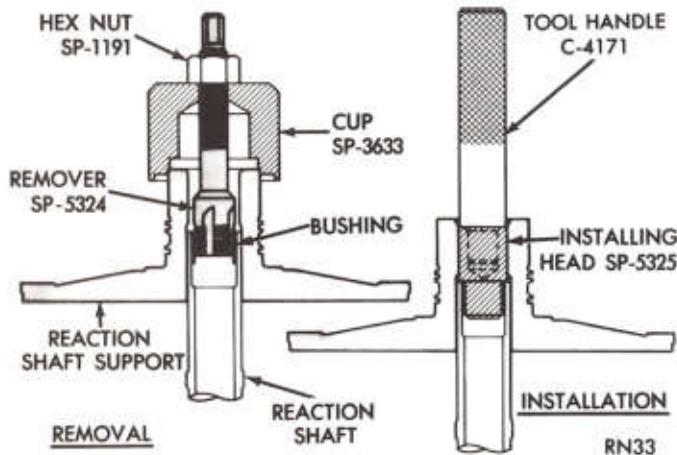

Fig. 12—Replacing Reaction Shaft Bushing (A-904T and A-999)
(1) Assemble the remover Tool SP-5324, cup Tool SP-3633, and hex-nut Tool SP-1191 (Fig. 12).
(2) With cup held firmly against reaction shaft, thread remover into bushing as far as possible by hand.
(3) Using a wrench, screw remover into bushing 3 to 4 additional turns to firmly engage threads in the bushing.
(4) Turn hex nut down against cup to pull bushing from reaction shaft. Thoroughly clean reaction shaft to remove chips made by remover threads.
(5) Lightly grip bushing in a vise or with pliers and back tool out of the bushing. Be careful not to damage threads on bushing remover.
(6) Slide a new bushing on installing head Tool SP-5325, and start them in the bore of reaction shaft (Fig. 12).
(7) Support reaction shaft upright on a clean, smooth surface and install handle C-4171 in installing head. Drive bushing into the shaft until tool bottoms.
(8) Thoroughly clean reaction shaft support assembly before installation.